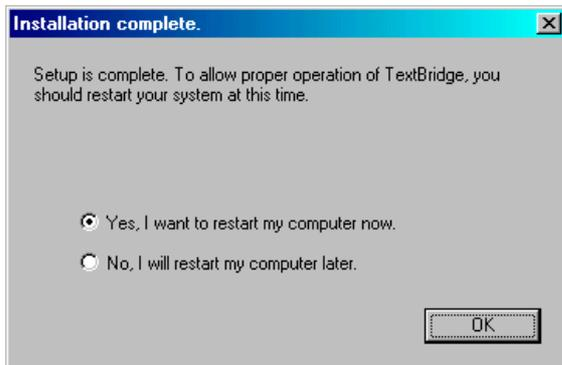

Figure 19: Installing TextBridge Classic
- Click on 'OK' to complete the installation of TextBridge Classic. Figure 19 will appear.